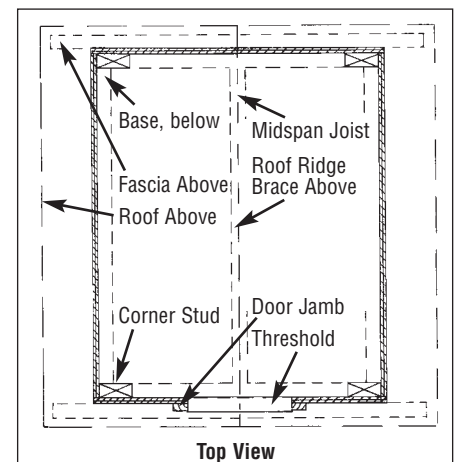

Fig. 3
- Nail base boards together, lapping front and rear over sides. Add a central joist at midspan (shown as dashed line on **Fig. 3**).